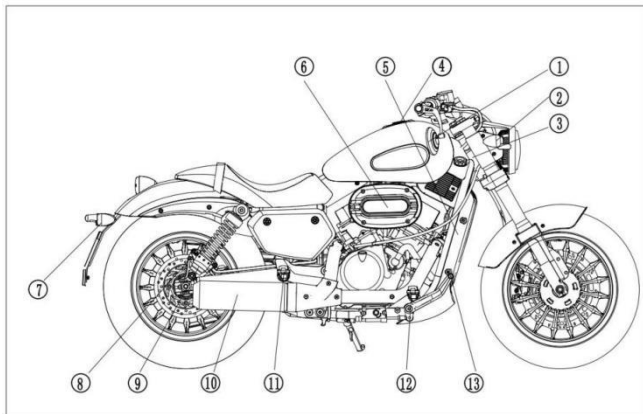
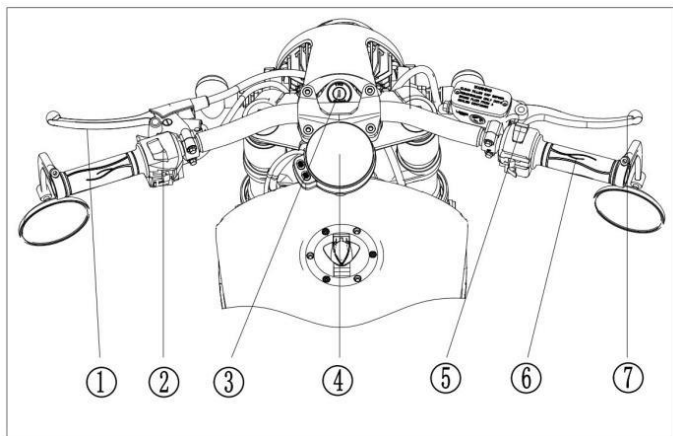

Fig.2
Fig.3
**2. ( Fig.2 )**
- ① R rear mirror
- ② FR turn single light
- ③ VIN
- ④ Tank cover
- ⑤ Nameplate
- ⑥ Air filter
- ⑦ RR turn single light
- ⑧ Rear brake clipper
- ⑨ Rear suspension
- ⑩ Exhaust muffler
- ⑪ RR pedal
- ⑫ FR pedal
- ⑬ Brake pedal
**3. ( Fig.3 )**
- ① Clutch Lever
- ② Left switch combination
- ③ Ignition switch
- ④ Instrument
⑤ Right switch combination
⑥ Throttle handle bar
⑦ Front brake lever